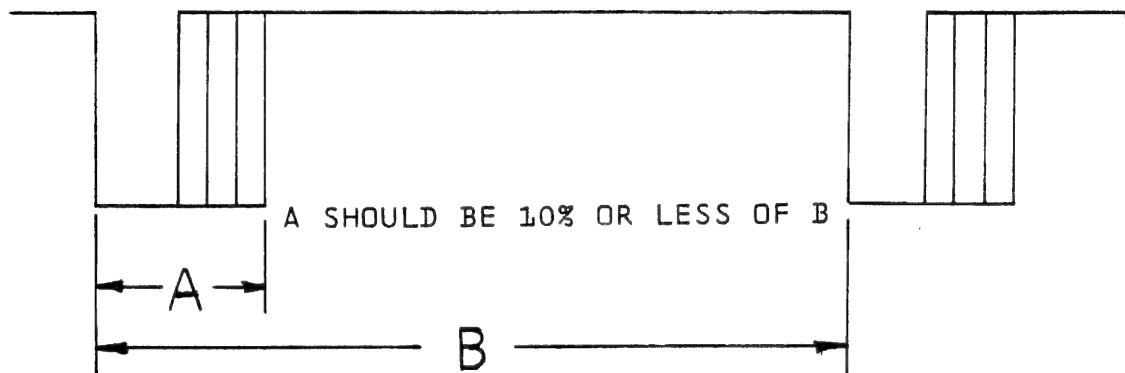

Figure 5-14. Skew Pulse at TP10
- c. Proper waveform is shown in Figure 5-14.
- f. Adjust azimuth screws (Figure 5-5) on head mounting plate so that outputs of all tracks, as monitored at TP10, fall within 10% or less of byte-to-byte period (Figure 5-14). Outer azimuth screw bears against transport mounting plate and pivots head assembly outward. Inner azimuth screw threads into transport mounting plate and pulls head assembly inward. Inner screw also serves to lock adjustment.